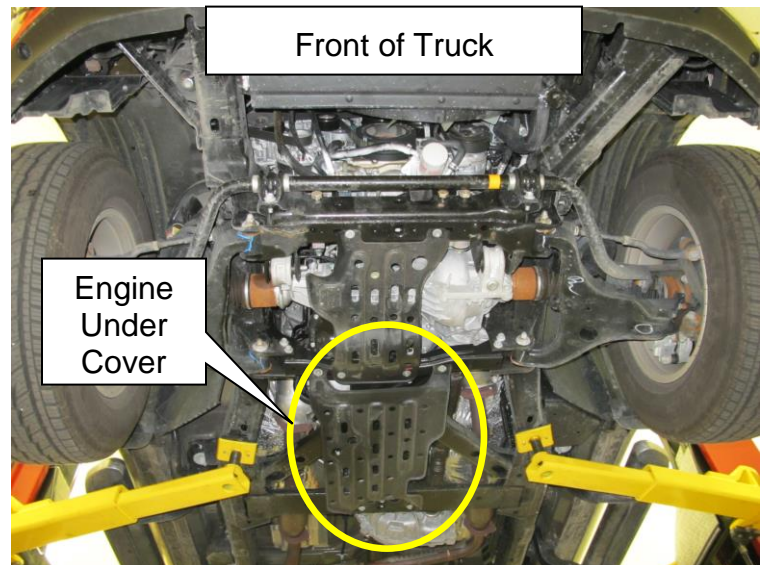

Figure 2
3. Locate the engine under cover (Figure 2).